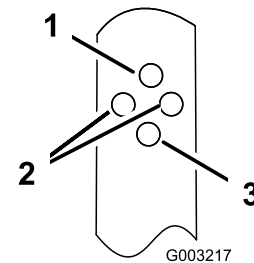

Figure 17
2. Insert the bolt through the hole in each of the handle brackets that sets the handle to the desired position (Figure 17).